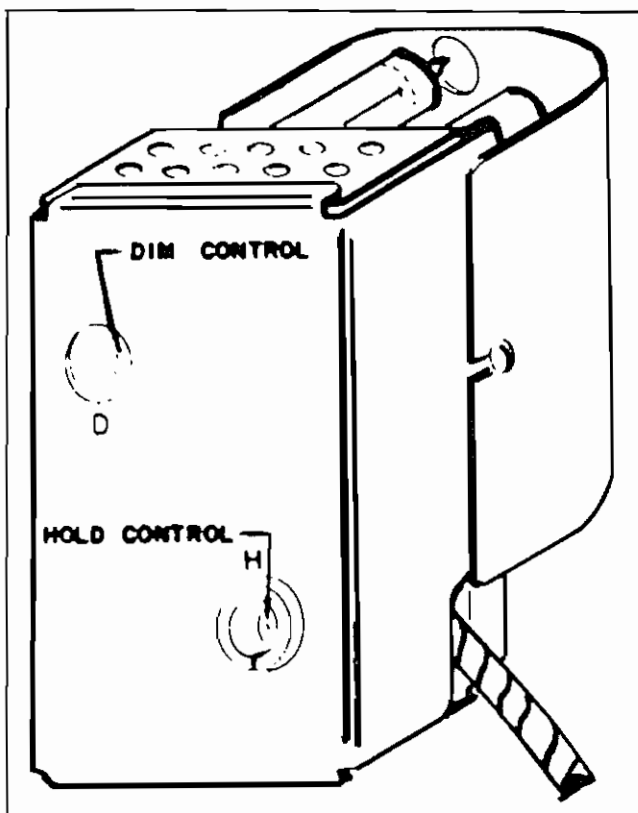

Figure 62
1. The Hold and Dim sensitivity controls are slotted for screwdriver adjustment and are available through holes (H) and (D) in the bottom cover of the Amplifier Unit, see figure 62.